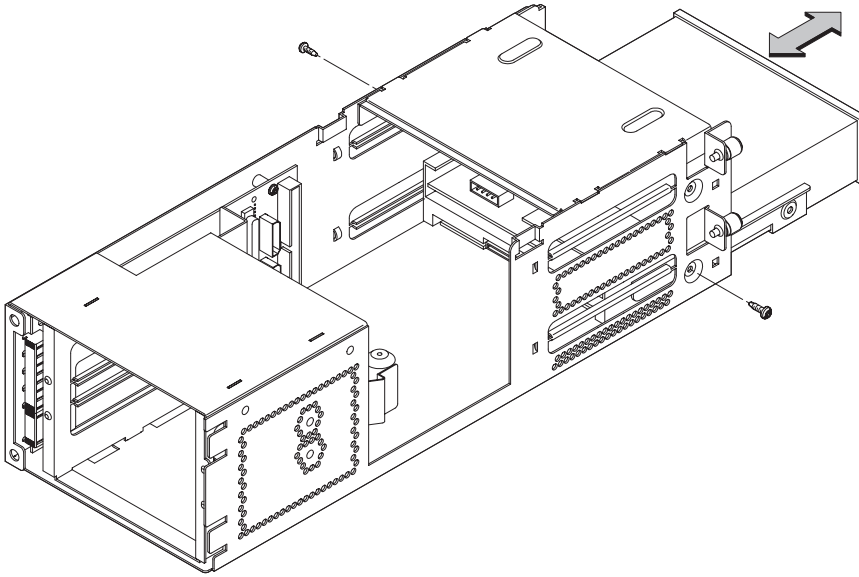

Figure 5–47. Removing Drive Screws
13. Unscrew the two screws holding the drive in the storage drawer, and slide the drive out of the drawer. See Figure 5–47.